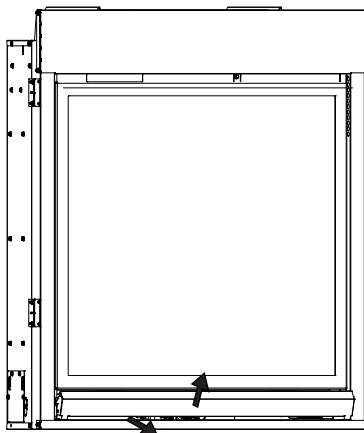

Figure 5
- 1b. **(Old Model)** Make sure power and gas are turned off. Tilt and pull lower panel to remove from bottom assembly. **See Figure 5.**
23b. Replace lower panel removed in step 1b. **See Figure 5.**